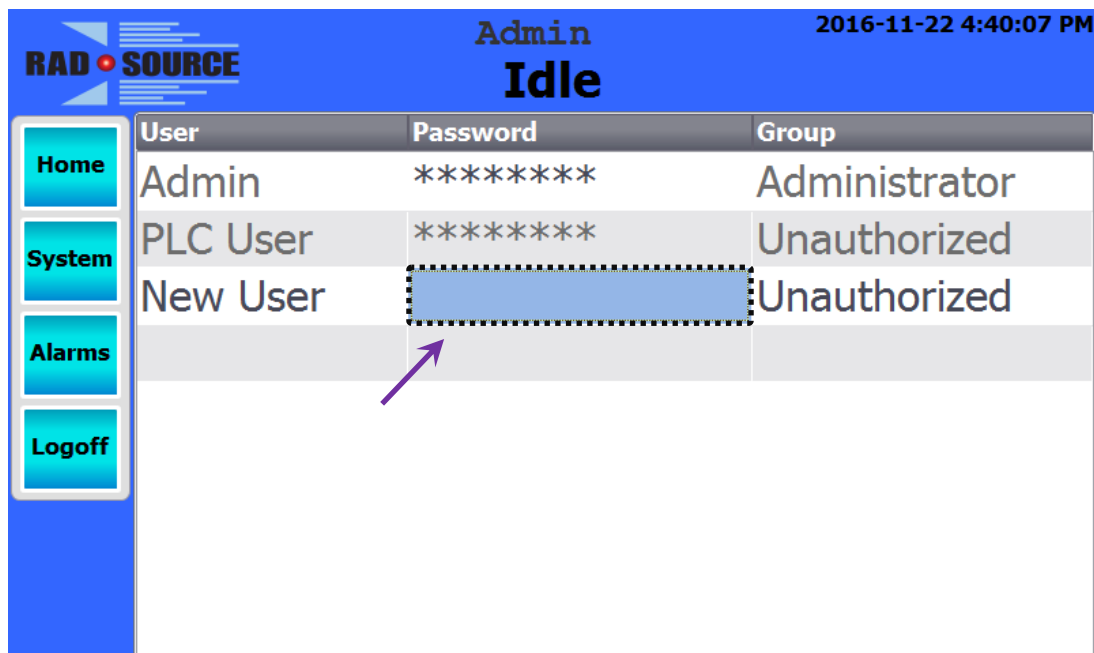

Figure 27: Password Field
5. Double tap the *Password* field to the right of your user name and create a new password (4-24 character limit, without any special characters [such as */*, ***, *%*, *(*, or *)*]). Confirm by re-entering the same password. (See Fig. 27 and 28.)